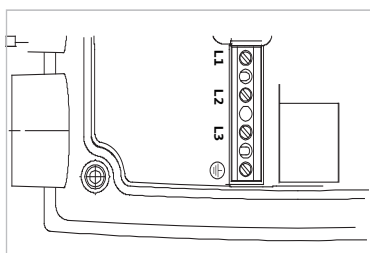

Fig. 24: Maitinimo gnybtai (tinklo prijungimo gnybtai)
- Maitinimo gnybtai (tinklo prijungimo gnybtai) (Fig. 24)